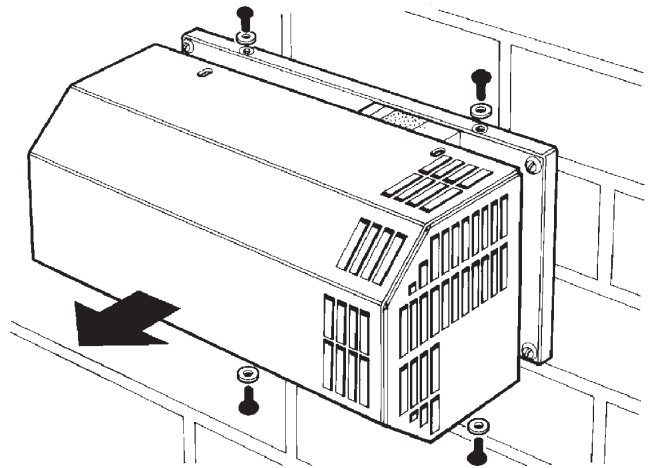

FIG. 15
2. The terminal cover is secured using 4 screws. Unscrew the 4 screws and remove cover. (See Fig. 15).